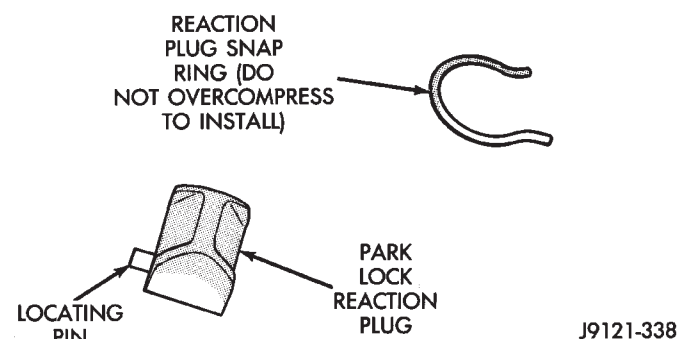

Fig. 56 Reaction Plug Locating Pin And Snap Ring
(2) Install pawl shaft retaining bolt. Tighten bolt to 27 N•m (20 ft. lbs.) torque.
(3) Install park lock reaction plug. **Note that plug has locating pin at rear (Fig. 56). Be sure pin is seated in hole in case before installing snap ring.**